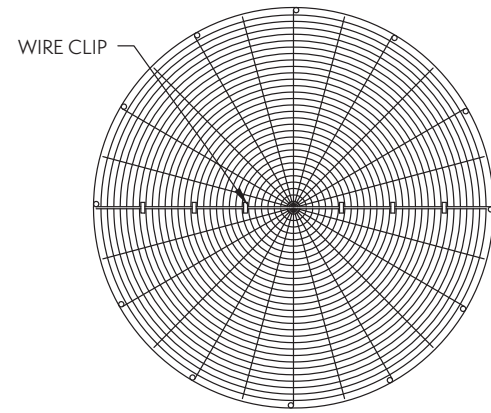
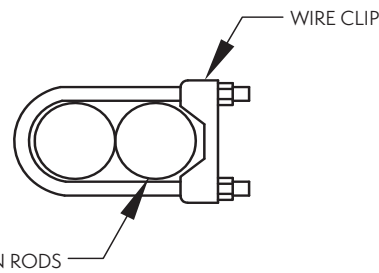

Figure 23 – Wire Clip Spacing
Figure 22 – Wire Clip Arrangement
- Join the two screen halves with wire clips (**Figure 22**). There should be 4 wire clips on each side of the fan screen. Space the wire clips evenly across the radius of the fan screen as shown in **Figure 23**.
- Join the two screen halves with wire clips (See **Figure 22**). There should be four clips on either side of the fan screen. Space them evenly as shown in **Figure 23**.